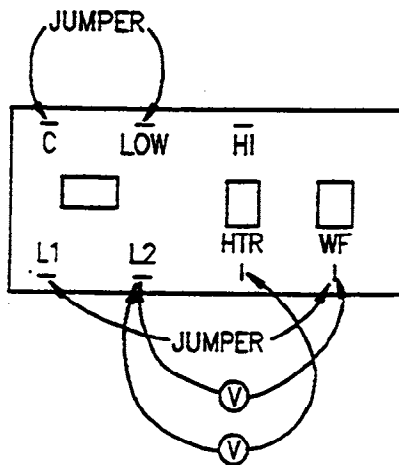

Figure 5-18. Water Level Control Unit
4. Refer to Figure 5-18 and connect the voltmeter across terminals HTR-L2. If the meter reads 0VAC across terminals HTR-L2, continue this procedure with step 5. If the meter reads 120VAC across terminals HTR-L2, perform the following steps.
5. Refer to Figure 5-18 and jumper Control Board terminal LOW to ground and check voltage across terminals HTR-L2. If the meter reads 0VAC across terminals HTR-L2, continue this procedure with step 6. If the meter reads 120 VAC, the Control Board is OK.
- Refer to Figure 5-18 and check voltage across Control Board terminals WF-L2. If the meter reads 0VAC across terminals WF-L2, continue this procedure with step 8. If the meter reads 120VAC across terminals WF-L2, Control Board is OK.
8. Refer to Figure 5-18 and remove HI connection (white/yellow wire) from Control Board. If tank does not fill, continue this procedure with step 9. If tank fills, Control Board is OK.
9. Refer to Figure 5-18 and jumper Control Board terminals WF-L1
10. Refer to Figure 5-18 and jumper Control Board terminal HI to ground. If generator keeps filling, remove WF connection (white/blue wire) from control board.